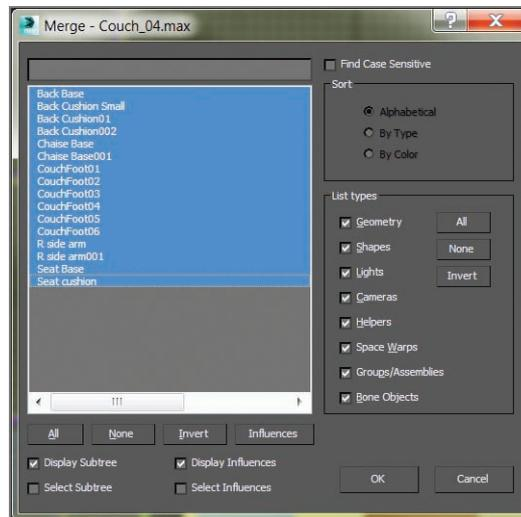

FIGURE 4.38 In the Merge dialog box, select the All button at the bottom of the dialog.
3. At the bottom of the dialog box, select All, as shown in Figure 4.38, and click OK. If you use your own files, the name may be different than in the figure.